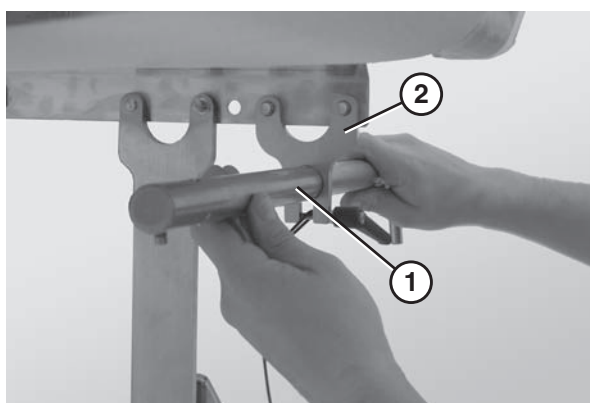

Figure 27
2. Slide the notched end of the scraper shaft (**Figure 27, item 1**) through the adjustment plate (**Figure 27, item 2**).